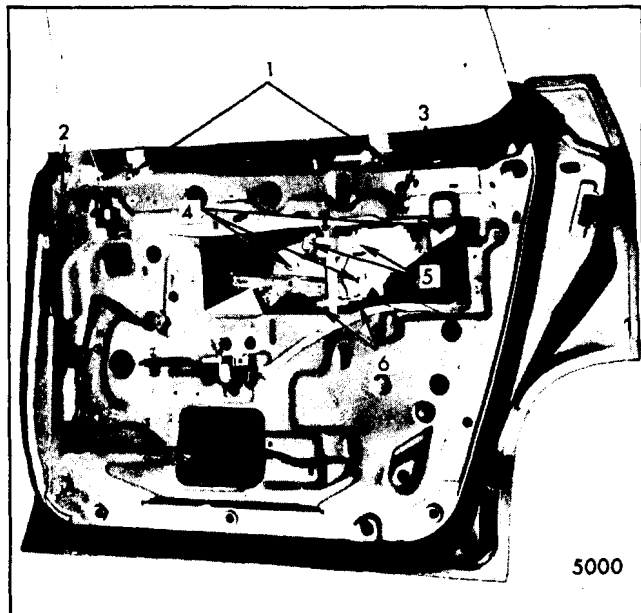
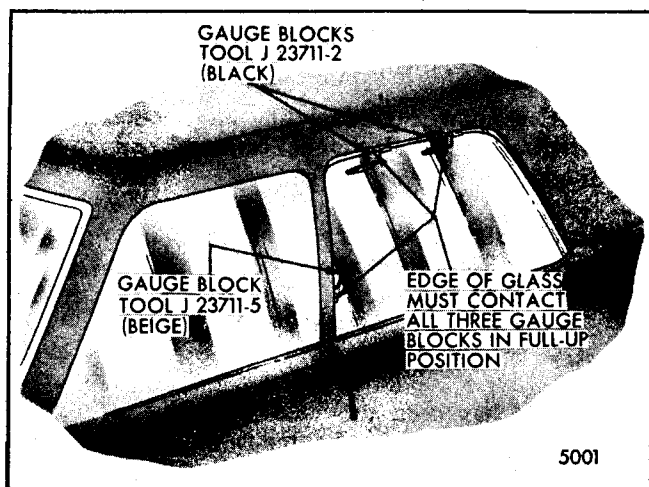

Figure 6-125-Rear Door Window Removal and Adjustment - 68169 Styles
Fig. 6-127-Rear Door Window Alignment (Fore and Aft and Rotated "Cocked" Glass in Body Opening Adjustment
2. Loosen stabilizer strip bolts ("1", Figure 6-125) and remove front and rear up-travel stops ("2" and "3", Figure 6-125).
3. Remove lower sash guide plate assembly to glass attaching stud nuts ("4", Figure 6-125). Tilt upper edge of glass inboard to disengage glass from guide plate, then remove the window from the door by lifting straight-up.
1. In and out adjustment of the glass is controlled by the in and out adjustment available at the front door window lower sash lower guide assembly ("6", Figure 6-125) and the in and out position of the glass stabilizer strip assemblies ("1", Figure 6-125). The lower sash lower guide assembly are slotted to permit in and out adjustment of the glass. Outboard adjustment of the lower sash lower guide moves the top of the glass inboard. Conversely, inboard adjustment moves the top of the glass outboard.
2. Fore and aft adjustment of the window assembly is controlled by the position of the lower sash channel guide plate assembly ("4", Figure 6-125). The guide plate to glass attaching locations are slotted to permit fore and aft adjustment of the glass.
3. Ease of window operation and window stability depend to a great extent on the adjustment of the window stabilizer strip assemblies at the beltline ("1", Figure 6-125). The stabilizing strips should contact the glass throughout the full cycle of the window. Due to slight variations in glass contour, however, in some cases the strip may loose contact with the glass halfway through the cycle. This is permissible provided it does not result in loose glass. Contact should be sufficient to stabilize glass, but not restrict ease of window operation.
4. A window that is rotated (cocked) in the window opening may be the result of an improperly adjusted lower sash upper guide assembly ("5", Figure 6-125) or poorly adjusted up-travel stops ("2" and "3", Figure 6-125).
Correct a poorly adjusted lower sash upper guide assembly by loosening upper guide assembly attaching bolts ("5", Figure 6-125) and rotating front edge of glass up or down in relation to rear edge of glass as necessary.
5. Up-travel of the window is determined by the adjustment of the front and rear window up-travel stops ("2" and "3", Figure 6-125). To adjust window up-travel loosen front and rear up-travel stops and operate window to desired position to establish proper glass to side roof rail weatherstrip contact. Tighten stop.
3. Lower front door window and install gauge blocks, tool J-23711-2 (black), or equivalent into the side roof rail weatherstrip retainer above the upper front and rear corners of the glass as shown in Figure 6-127. Then, install gauge block, tool J-23711-5 (Beige), or equivalent into the center pillar retainer above the beltline.
- Working from inside the body, with the door in the closed position, loosen front and rear up-travel stops ("2" and "3", Figure 6-125) and stabilizer strips ("1", Figure 6-125).
If upper and forward edge of glass contact all three gauge blocks simultaneously (as shown in Figure 6-127), proceed with step number six (6). If, however, upper and forward edge of glass does not contact all three blocks simultaneously, completely loosen lower sash channel guide plate ("4" Figure 6-125) and lower sash upper guide assembly "5" Figure 6-125) and manipulate the glass by hand until upper and forward edge of glass contacts all three gauge blocks in the full-up position (as shown in Figure 6-127). Tighten guide plate and upper guide assembly attaching bolts.
- Loosen lower sash lower guide assembly "6", Figure 6-125). Apply firm outboard pressure against the bottom of the lower sash guide plate assembly to remove slack in the system and to hold the upper inner edge of glass inboard against outer edge of gauge blocks. Then, tighten lower guide assembly attaching bolts.
- With the glass in the full-up position against the upper gauge blocks as shown in Figure 6-127, tighten adjustable up-travel stops. Adjust stabilizer strips for proper tension against glass.